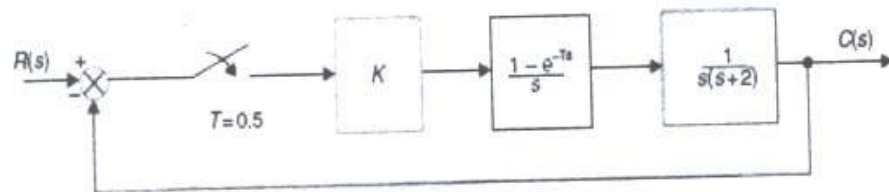

Figure 1
- [2] Figure 1 shows a digital control system. When the controller gain K is unity and the sampling time is 0.5 seconds, determine: